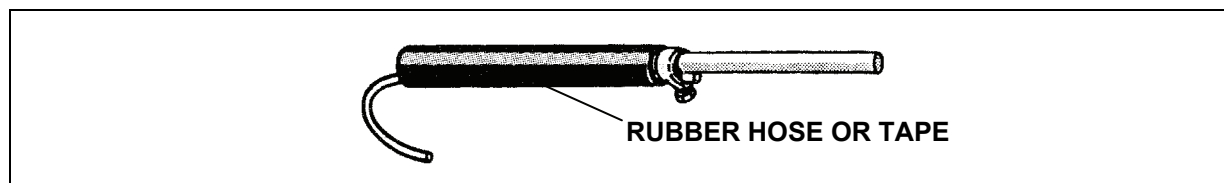

Figure D-2. Insulation Around Wall
- Slide the 12-inch piece of rubber hose over the cable and grounding rod so that the rod is approximately 1 inch from the end of the rubber hose. Fill the end of the hose with silicone sealant to provide insulation protection from the bare end of the rod (Figure D-2). If a rubber hose is not available, wrap electrical tape or pressure-sensitive tape around the clamp and the lower portion of the rod so that the tape is approximately 1/2-inch thick.